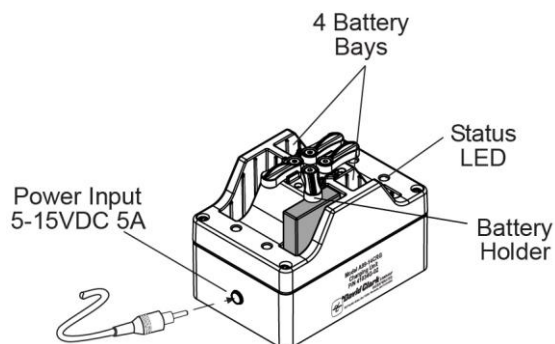

Figure 3
3. Insert batteries as shown in **Figure 3**. Take care to insert batteries correctly, so as to ensure battery terminals and the electrical connections inside the battery bay make contact.
4. Engage battery holder over batteries to ensure integrity of terminal connections, as shown in **Figure 3**.